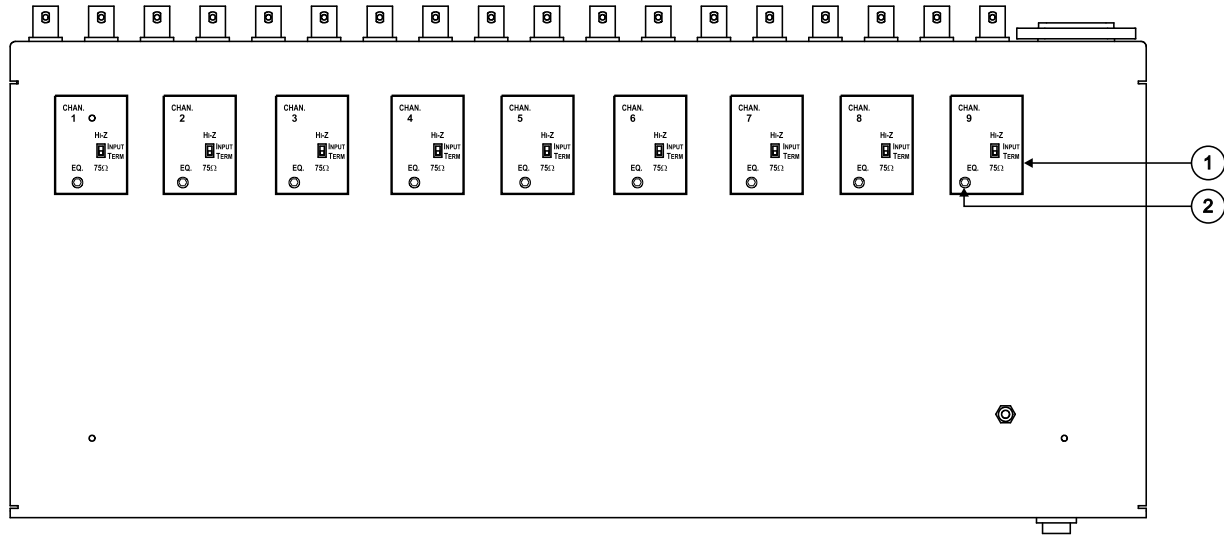

Figure 2: Underside of the VM-92 9x 1:2 Video Distributor
- Underside panel (see Figure 2 and Table 2)